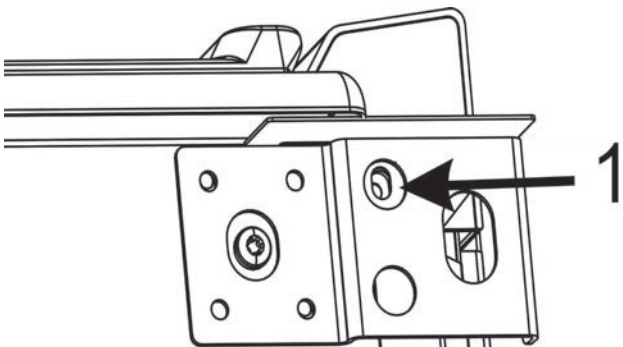

Figure 4: Right side corner cover placement, second step
6. Rotate the corner cover so that the corner cover is flat and the round hole in the corner cover aligns with hole 1 (see Figure 4: Right side corner cover placement, second step).